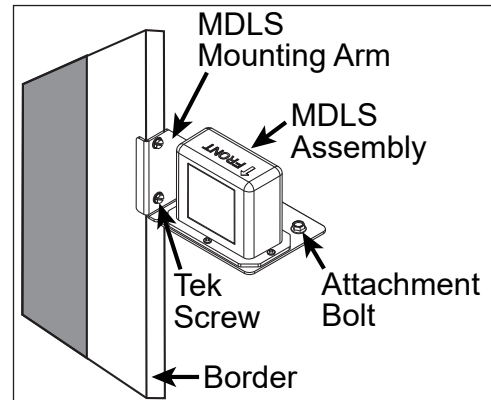
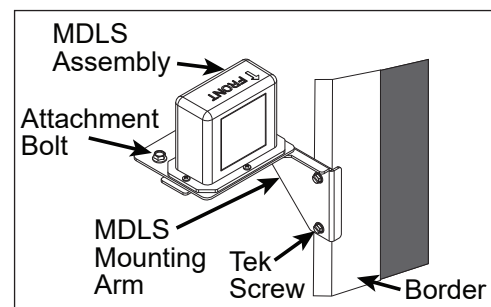

Figure 20: MDLS on Right Side of Display (From Front)
Figure 21: MDLS on Left Side of Display (From Front)
3. Loosen the attachment bolts that hold the MDLS assembly to the MDLS mounting arm. Refer to **Figure 20** and **Figure 21**.
5. Remove the two tek screws that secure the MDLS mounting arm to the border. Refer to **Figure 20** and **Figure 21**.